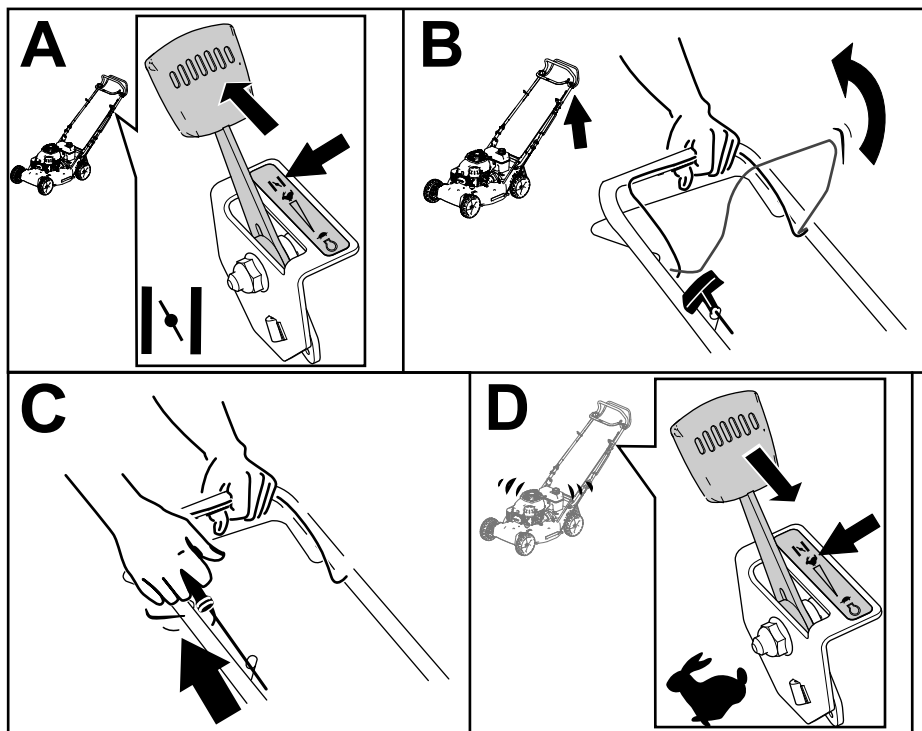

Figure 17
3. Move the throttle-control lever to the CHOKE position (A of Figure 17).
4. Hold the blade-control bar against the handle (B of Figure 17).
5. Pull the recoil-start handle (C of Figure 17).
6. When the engine starts, move the throttle-control lever to the FAST position (D of Figure 17).